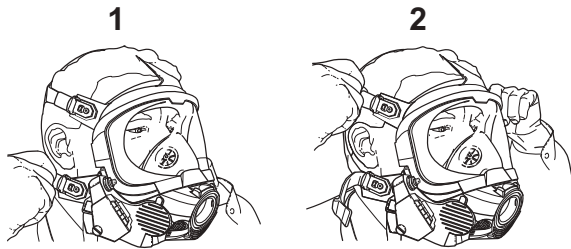

Fig. 24 Tightening the mask straps
11. Tighten the neck straps (Fig. 24, 1) and then the temple straps (2) evenly towards the back of the head. Ensure that the fabric panel of the head harness remains positioned in the center of the head.